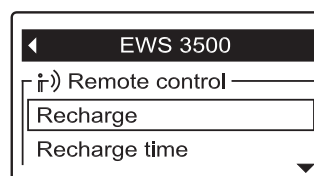

FIG. 124
2. Press the remote's SELECT (O) button to display the device menu (See Figure 124).